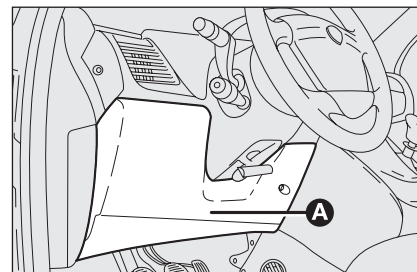

fig. 38
To gain access to the fuses in the fuse box on the dashboard, remove the plastic protection **A**-fig. 38.
- ❑ 20A fuse for external amplifier (Bose Hi-Fi sound system), installed near the dashboard fusebox (accessible by removing the protective plastic **A-fig. 38**);
- ❑ 20A fuse for sunroof, installed near the dashboard fusebox (accessible by removing the protective plastic **A-fig. 38**);